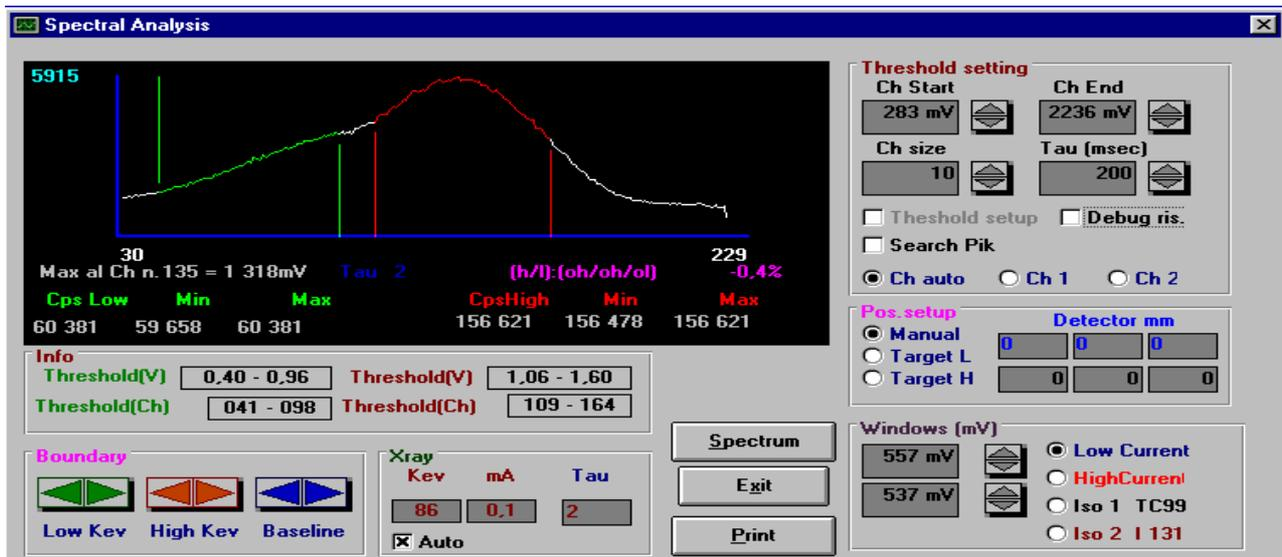

Figure II-1 : Spectral Analysis Window
3. Modify the values “Threshold (V)” in the “Info” window to obtain those given in Figure II-1 (0.40 – 0.96 / 1.06 – 1.60).
8. Click on [Spectrum] to obtain the curve as in Figure II-1 again.